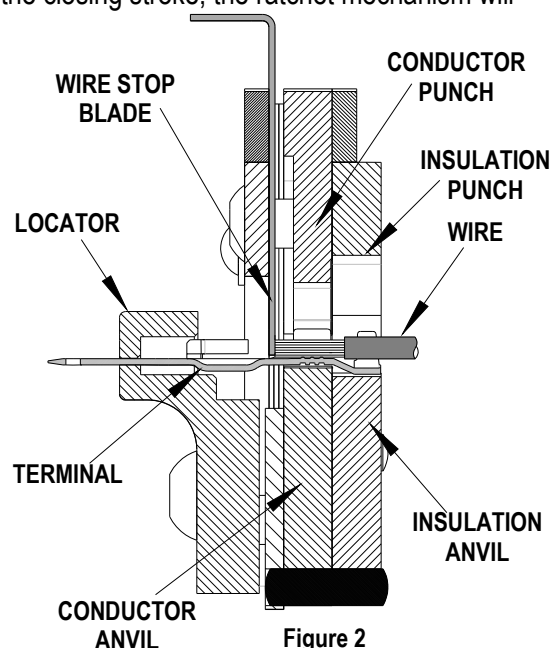

Figure 2
3. Place a pre-stripped wire into the terminal until the end of wire touching the wire stop. See Figure 2.